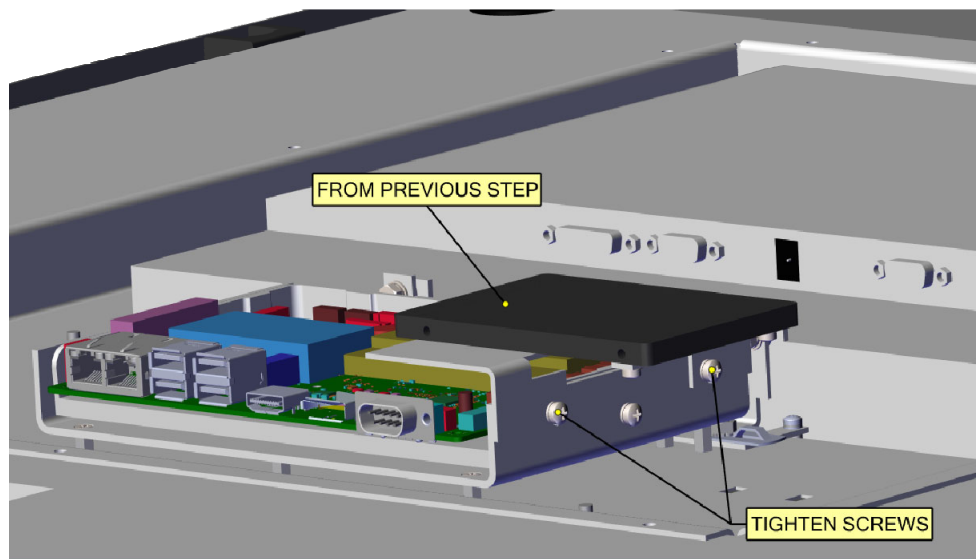

Figure 8: Attaching the SSD Drive assembly to the SBC
- (m) Mount the SSD Drive assembly from step (l) to the SBC Mounting Bracket by sliding the assembly over the loosened screws from step (k). Tighten the two screws. See Figure 8.